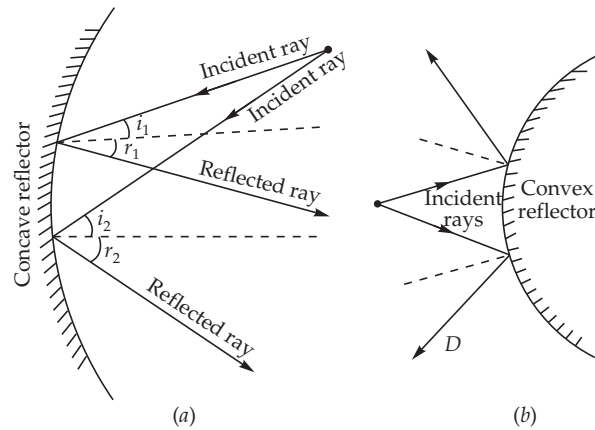

Fig. 1.18
- (i) Concave surfaces concentrate the sound waves after reflection hence these surfaces are used as *sound reflectors*. See Fig. 1.18 (a).
- (ii) Convex surfaces “diffuse” sound waves after reflections. These surfaces, hence used in broadcasting studios to diffuse sound in the whole studio. See Fig. 1.18 (b).